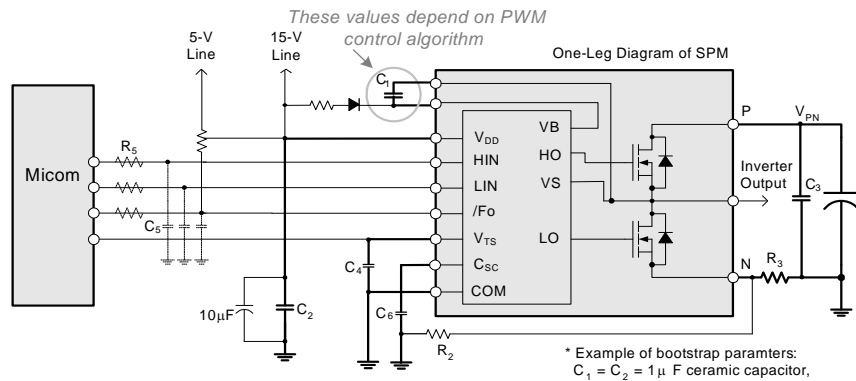

Figure 2. Recommended MCU Interface and Bootstrap Circuit with Parameters
- Source terminal of each low-side MOSFET is not connected to supply ground or bias voltage ground inside Motion SPM® 7 product. External connections should be made as indicated in Figure 2.